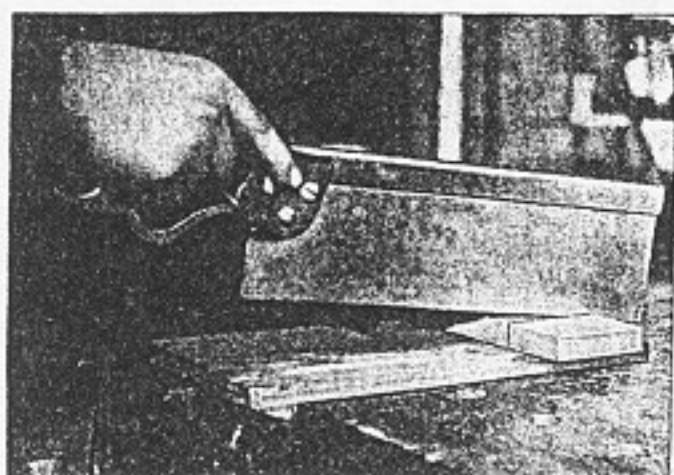

Fig. 70. Sawing with backsaw, starting the cut. Work held on bench hook.
12), and the piece is held firmly against the short crosspiece of the bench hook, so that the line marked comes just outside the end of the crosspiece (Fig. 70). If it is to be sawed all the way through, the teeth of the saw will not injure the bench top, but will only come in contact with the surface of the bench hook.
2. The thumb of the left hand is used as a guide for the saw. The cut is started on the far edge of the stock, with the heel of the saw raised as shown in Figure 70. As the cutting progresses, the saw is lowered little by little to a horizontal position.